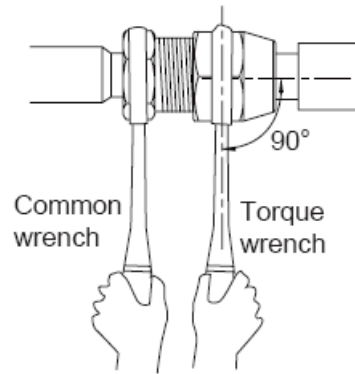

Fig. 14
- (3) Use torque wrench to twist on the flared nut tightly until the wrench gives out a click sound. (Hold the handle of wrench and make it at right angle to the pipe, as in Fig. 14)